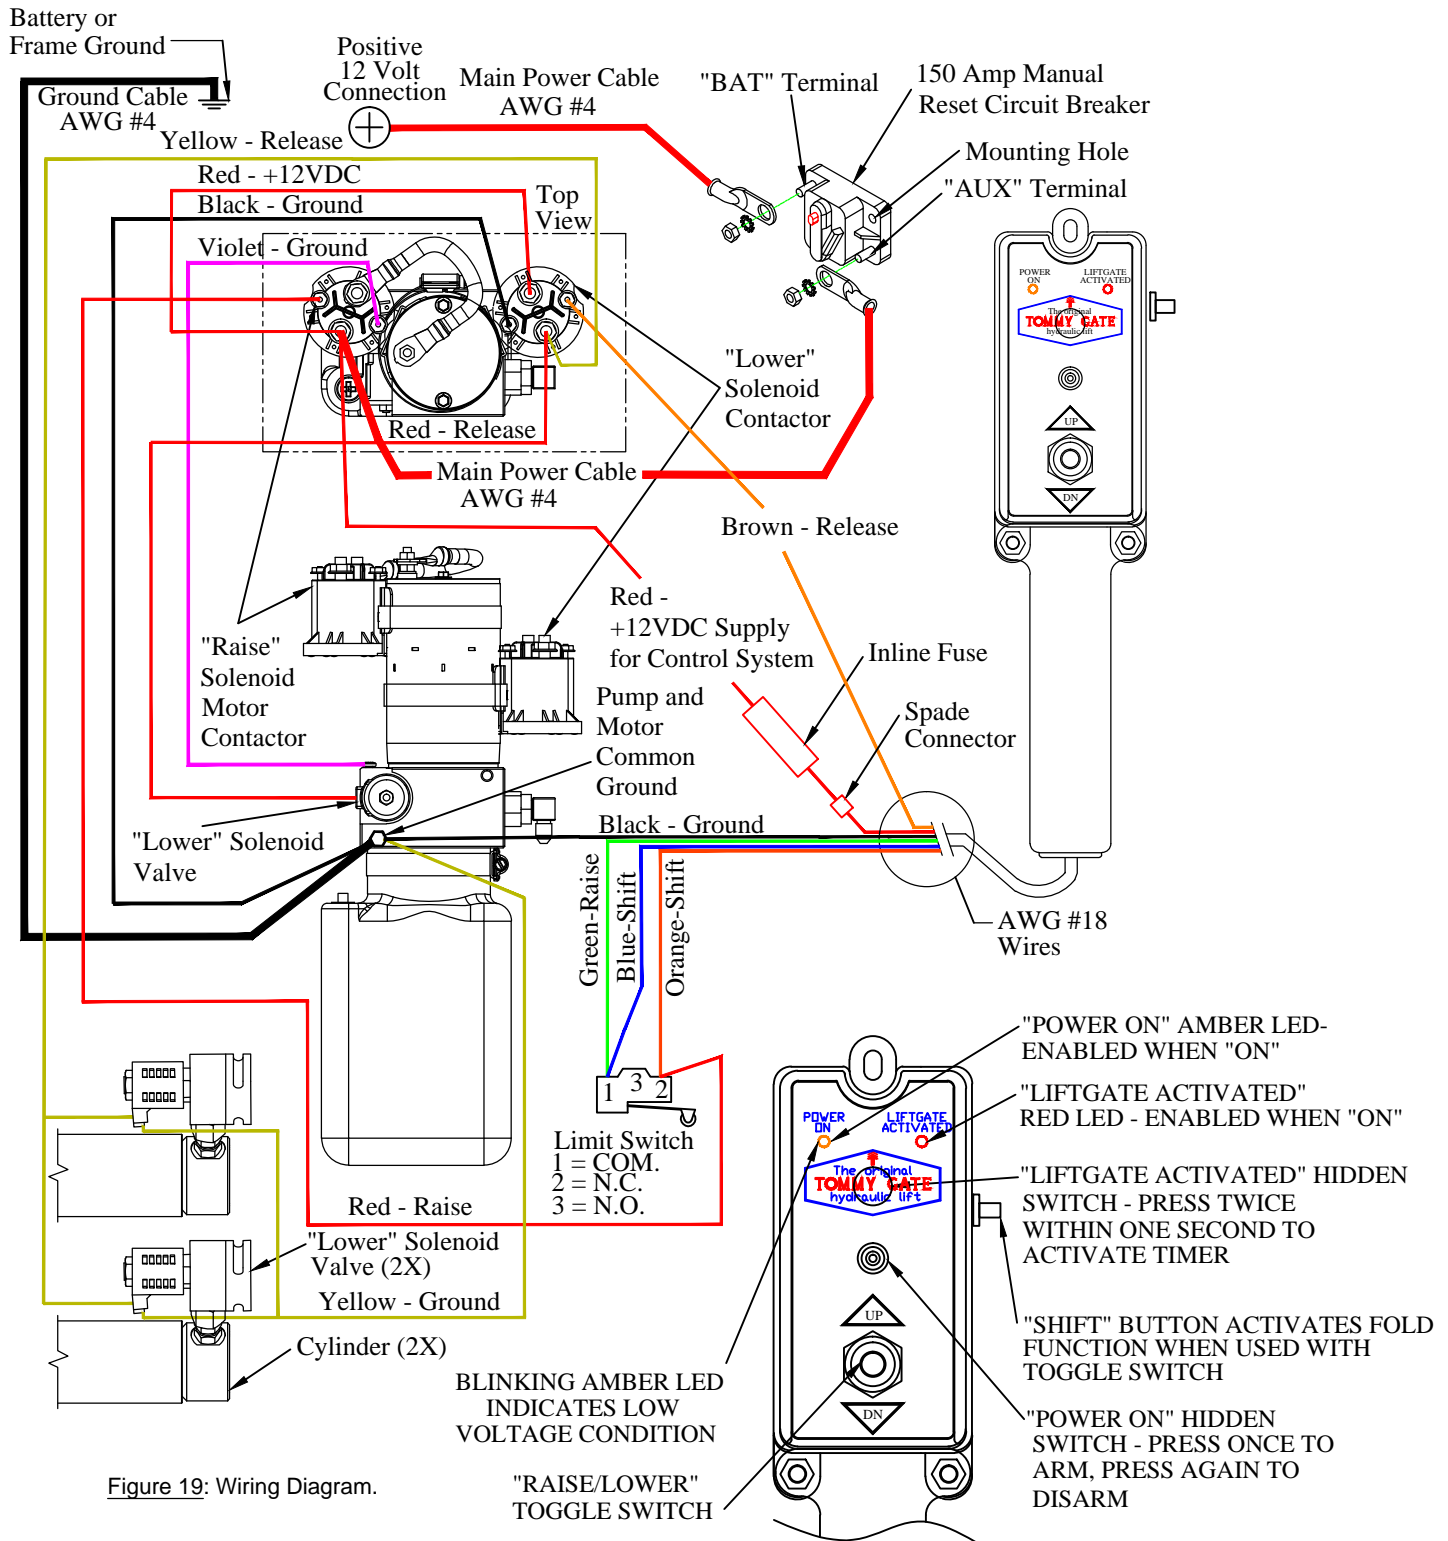

Figure 19: Wiring Diagram.
Note: Follow the *Tommy Gate Recommended Electrical Wiring Guidelines* and wiring diagram (Figure 19) in the following steps.
13. **Connect** the circuit breaker (Figure 19). Use the supplied heat shrink tubing.
13. **Connect** the circuit breaker and battery as outlined in the *Tommy Gate Recommended Electrical Wiring Guidelines* and wiring diagram (Figure 19).